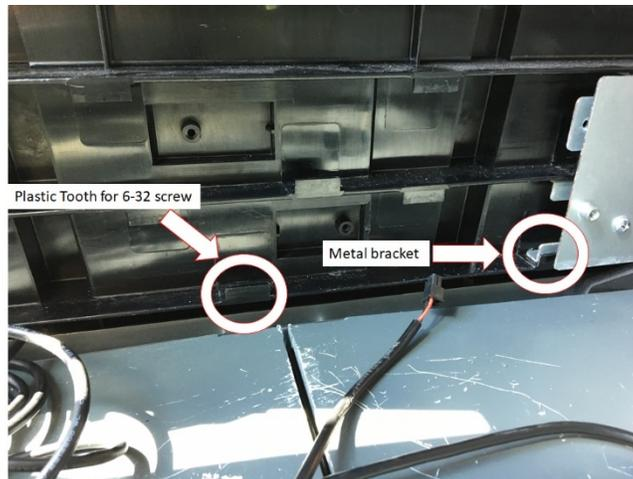

Figure 205
- 16) Secure OPTIC Heater mounting Plate (497-0524577) to dispenser wall by installing one 6-32 screw (006-8611215) fully into the bracket to hold the assembly in place. The screw prevents the bracket from backing out. It will hit a metal bracket in the pump wall if you try to slide the assembly backwards. See Figure 205 and Figure 206 below.